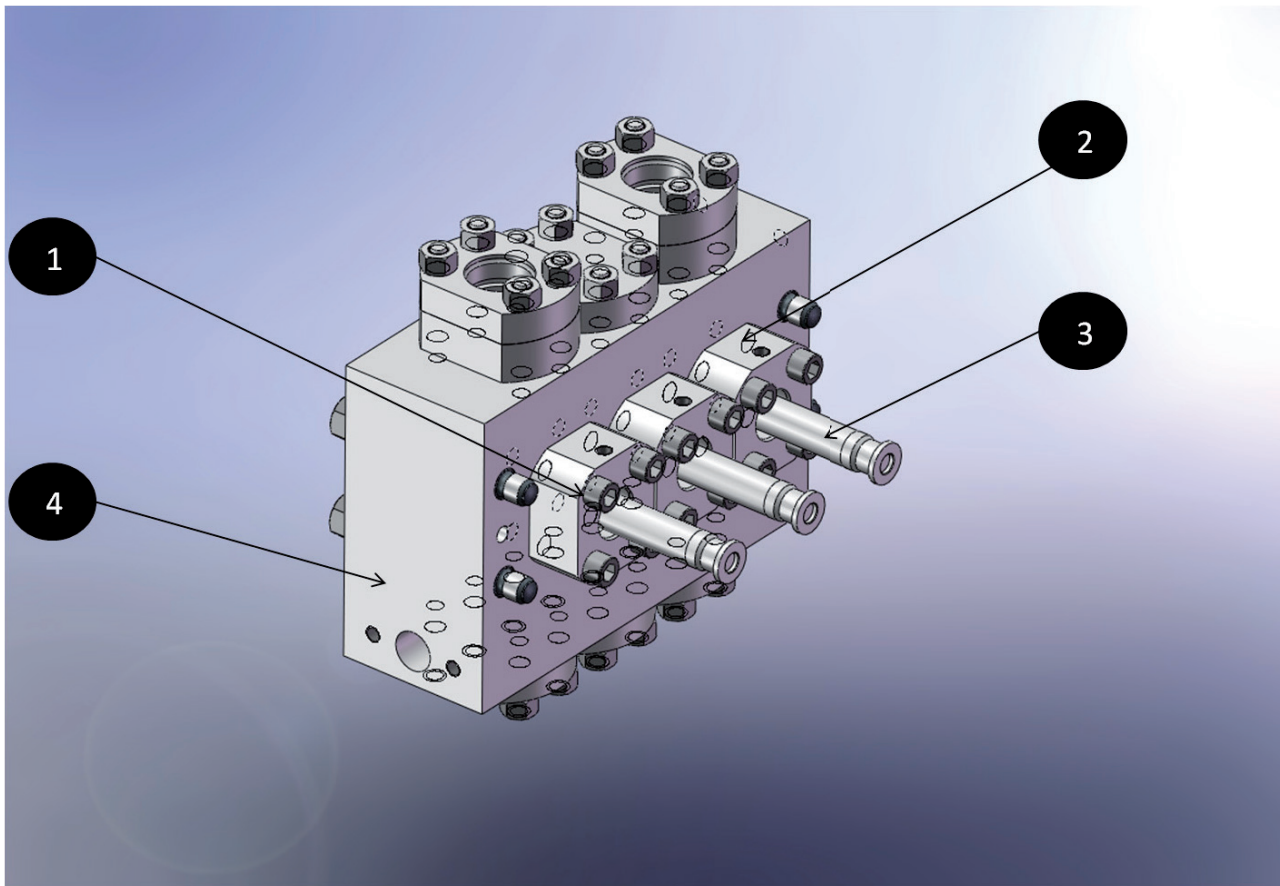

FIG. 7-8
- Referring to Figure 7-8, unscrew the nuts **(1)** and remove the packing container flanges **(2)** together with the piston **(3)** paying attention to the centring grub screws between the head **(4)** and the flange **(2)**;